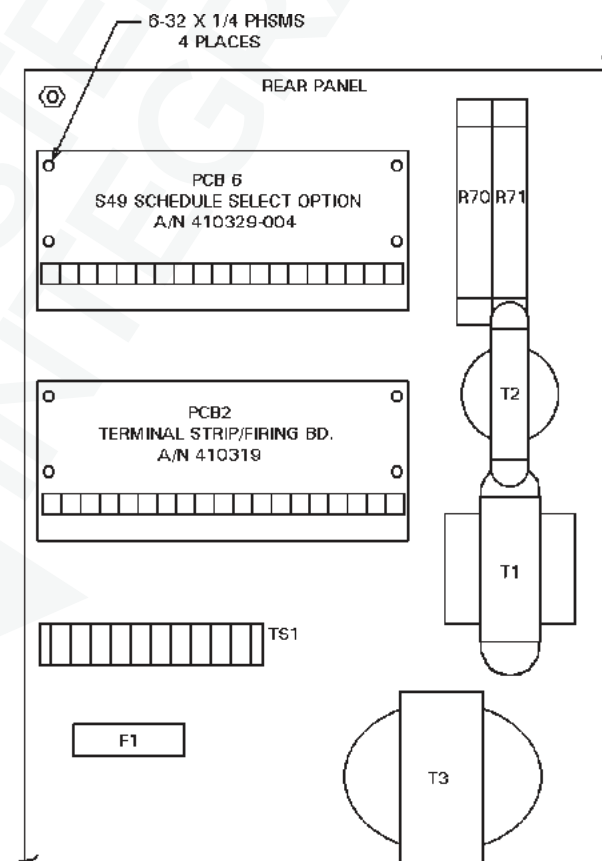

Figure C-1. Mounting detail for “T/D” or “L” Cabinet
2. Mount the S49 Option PCB (A/N 410329-004) to standoffs on rear panel using four (4) 6-32 x 1/4 PHSMS, Phil., Brite (see Figure C-1).